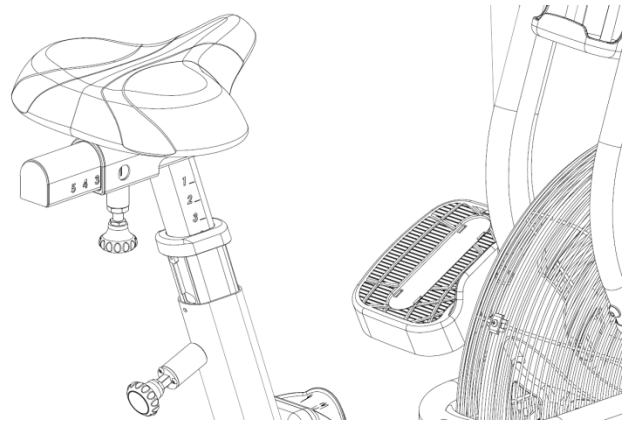

Fig. 19
18. Install the corresponding stopper bolt (Fig. 19) into the slider section of the seat post.